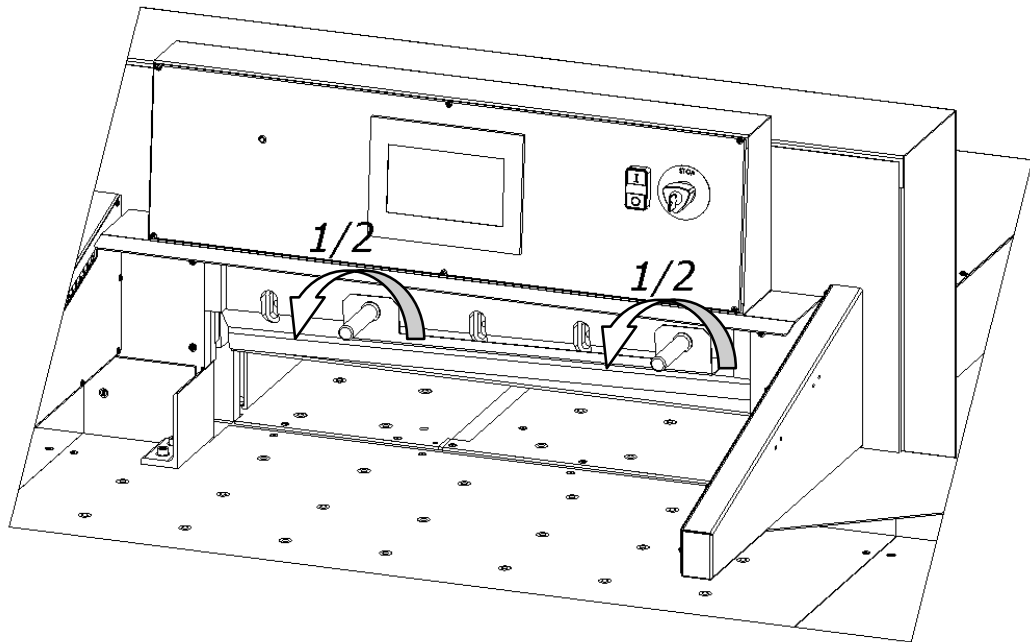
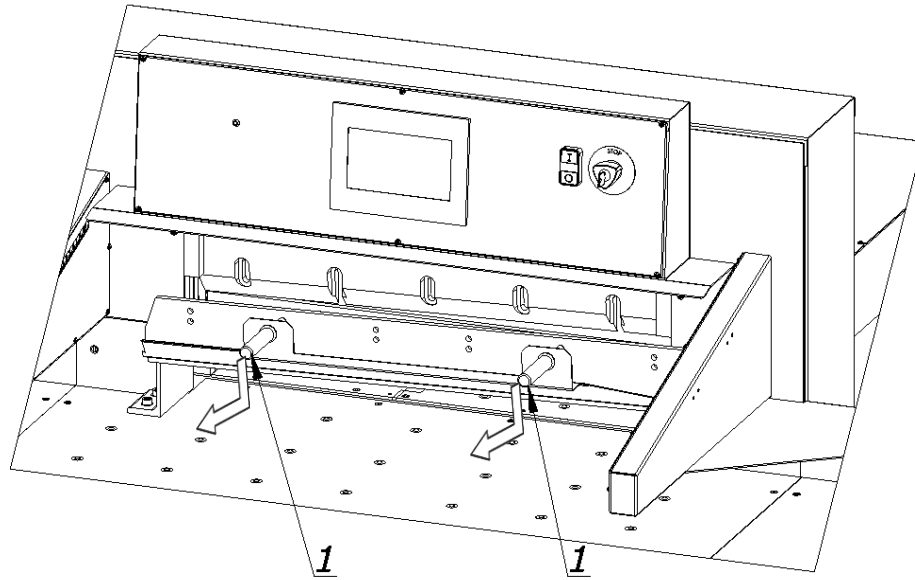
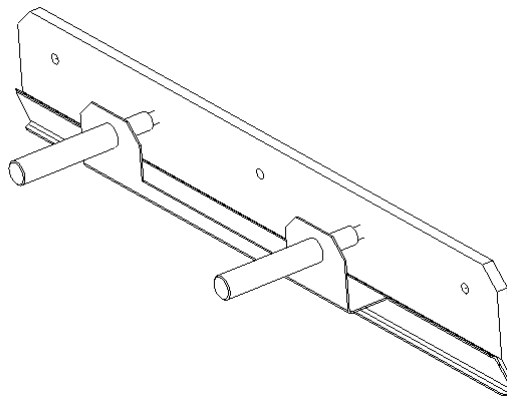

Figure 27.
Figure 28.
Figure 29a. Knife in the transport handle
8.1.1.12 holding the transport handles release the clamp by turning them 1/2 turn at a time to the left (fig. 27) and carefully pull the knife down (fig. 28). Take the removed knife into the special protective packaging (Fig. 29a - 29d.) With the blade inwards and fasten it with two screws. Use the Allen key 8 wrench provided to unscrew the bolts that fix the knife to the cutter bar.
8.1.2.2. Remove the knife from the packaging (Figs. 29a to 29d)